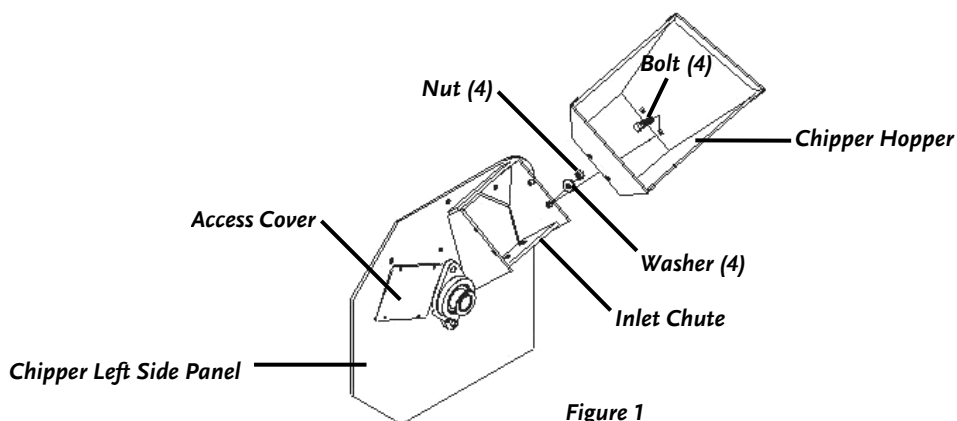

Figure 1
NOTE: Be sure to insert the bolts from the inside of the Chipper Hopper so that the threads are sticking out (**Figure 1**).
2. Install a Flat Washer, then a Lock Nut on each bolt. Initially install the Bolts and Nuts finger tight and then tighten the Nuts one (1) turn using two (2) 1/2" wrenches (**Figure 1**). Check to see that the Hopper is centered on the Inlet Chute and then tighten the Nuts securely.